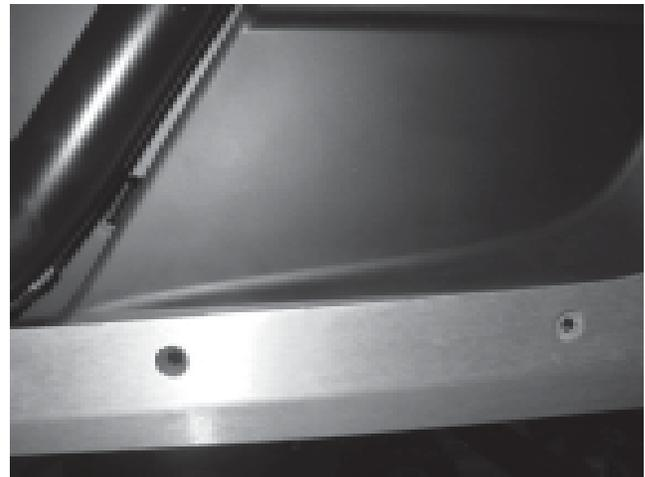

Figure 7
10. Align vehicle side panels to skid plates. Drill holes in plastic fender using a 1/4" drill bit. (Figure 7)